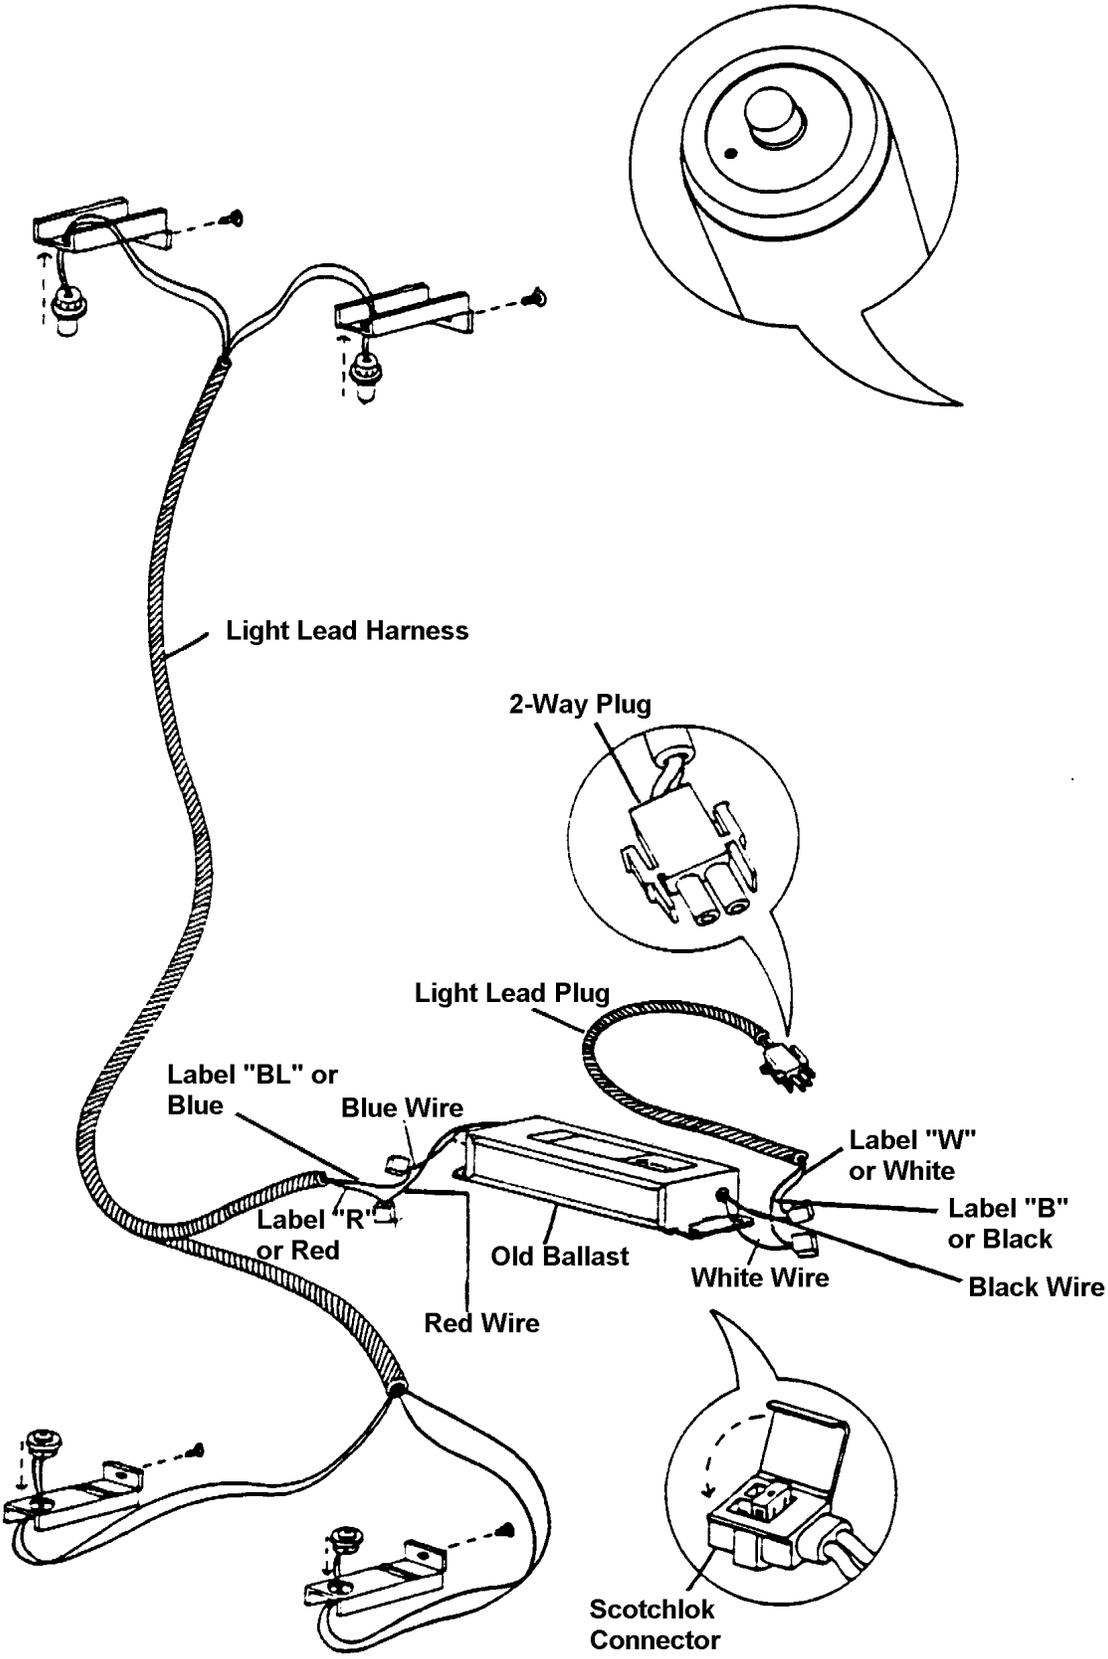

Figure 1
5. Once wires are labeled, disconnect the bad ballast at the scotchlok connectors. (See figure 1, page 3.)